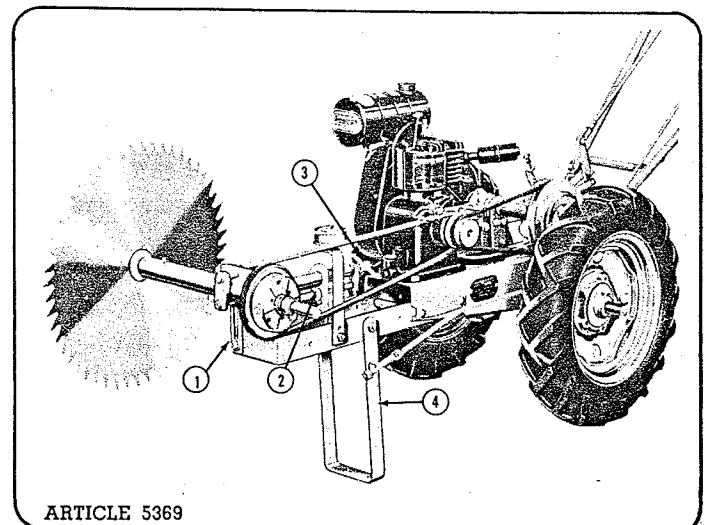

Fig. 2
1. Follow same steps for mounting saw in horizontal position except arbor should be placed in vertical position by loosening arbor prop nut (1, Fig. 2) and swinging saw blade into vertical position.
2. Arbor pulley should be lined up with inside groove of engine pulley as illustrated in Fig. 2.
3. Tighten set collar (2, Fig. 2) on adjusting screw assembly and turn tightener screw (3, Fig. 2) until belt is tight; then lock with nut.
1. Place saw in vertical position as shown in Fig. 2.
1. To raise or lower stand (4, Fig. 2) hold down tractor handles slightly and move left clutch lever to the rear or forward. Stand must be raised when using saw in horizontal position (Fig. 1). Lower stand when using saw in vertical position (Fig. 2) except when using cradle.